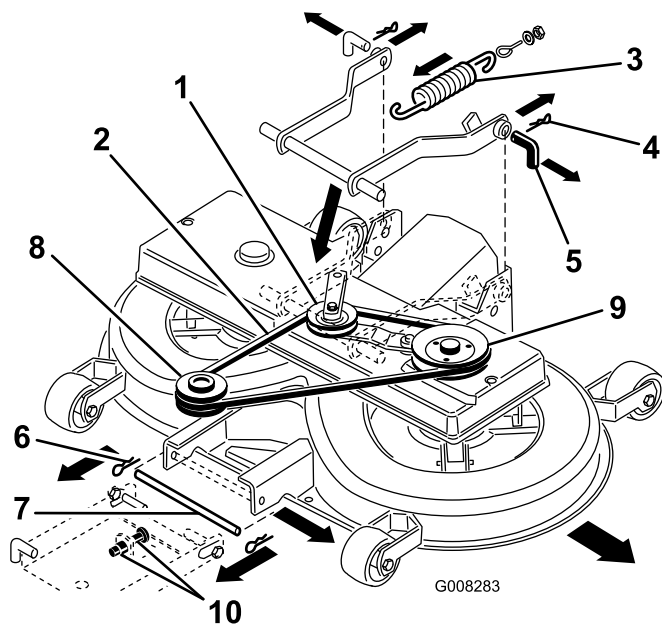

Figure 42
2. Remove the V-belt pulley and the idler arm assembly (Figure 42).
8. Pull the idler arm assembly in and remove the V-belt from the pulley (Figure 42).
9. Disconnect the spring from the engagement lever (Figure 42).
11. Remove the hairpin clips from the 2 rear pins and remove the pins (Figure 42).
12. Remove the hairpin clip from the front pin and remove the pin (Figure 42).
13. Remove the V-belt from the engine pulley (Figure 42).
7. Move the lower pin of the front adjustment suspension into the bottom position of the slotted holes by adjusting the 2 nuts (M12) on the front suspension (Figure 42).